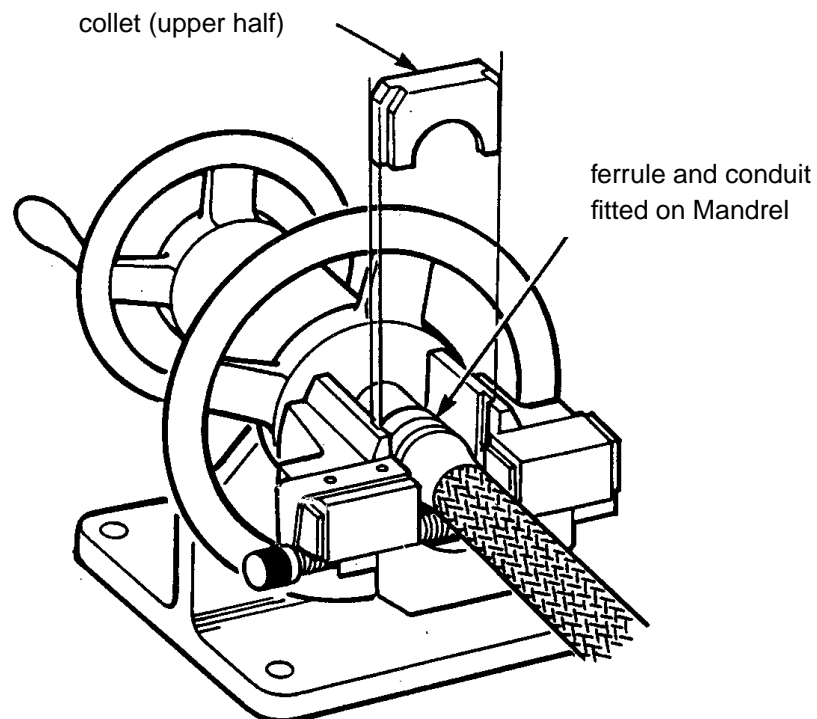

Figure 4 - Installation of Conduit and Ferrule, and Collet Upper-Half
- Step 4. Retract the mandrel shaft to slip on the conduit and ferrule. Place the upper half of the collet on the mandrel shaft as shown in Figure 4.